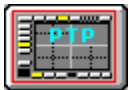

Figure 3
Step 4: We need to make sure our geometry is as simple as possible. This means we must reduce the number of polygons as much as possible. Looking at Figure 3 you will see that the top and bottom of the shape consist of 8 triangles meeting at a point in the center. This is a result of the lathing operation in Step 2. Using the right mouse button, lasso the top polygons then cut and paste them into another layer. Press "k" on the keyboard to kill (Remove) these polygons, leaving only the points. Select and delete the middle point and then construct 3 polygons from the remaining points.